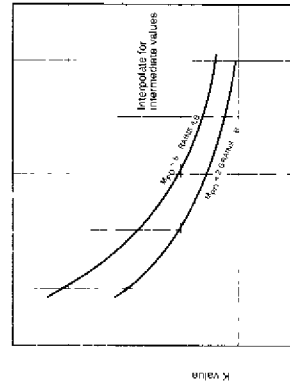

FIGURE 3
- From Figure 3, determine K value.